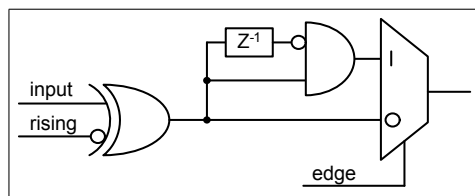

Figure 2.17: The digital inputs Trigger, GATE, BUS0, BUS1, BUS2 and BUS3 have simpler trigger units.
The configuration is set via the structures `trigger[8]` and `trigger[9]` in the configuration structure. The input circuit is shown in Figure 2.17 on page 12.
- the GATE input (Figure 2.17 on page 12)
- the Trigger input (Figure 2.17 on page 12)